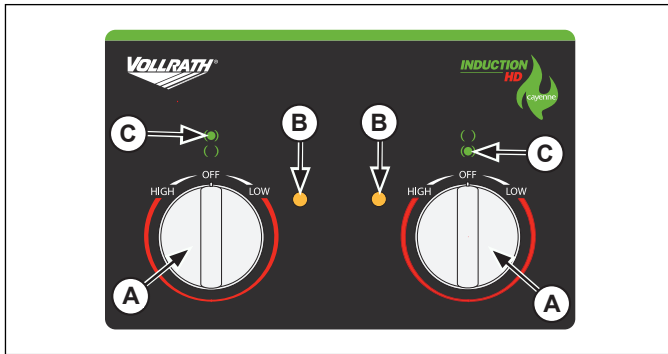

Figure 1. Manual Model Control Panel
- (A) CONTROL KNOB. Controls the amount of heat transferred to the induction ready cookware.
- (B) INDICATOR LED light. Illuminates steady when an induction ready pan is on the hob and the control knob is between the “low” to “high” range. Blinks 1 time per second when no pan or a non induction ready pan is on the hob.
- (C) HOB LOCATION. Shows which hob the control is operating.
- (D) KNOB GUARD (not shown). Helps protect the control knob from damage.
1. Rotate the control knob (A) to the desired setting. See Figure 1. The indicator led light (B) will illuminate steady when an induction ready pan is on the hob and the control knob is set between the “low” to “high” range. The indicator led light (B) blinks when no pan or a non induction ready pan is on the hob and the control knob is set between the “low” to “high” range.